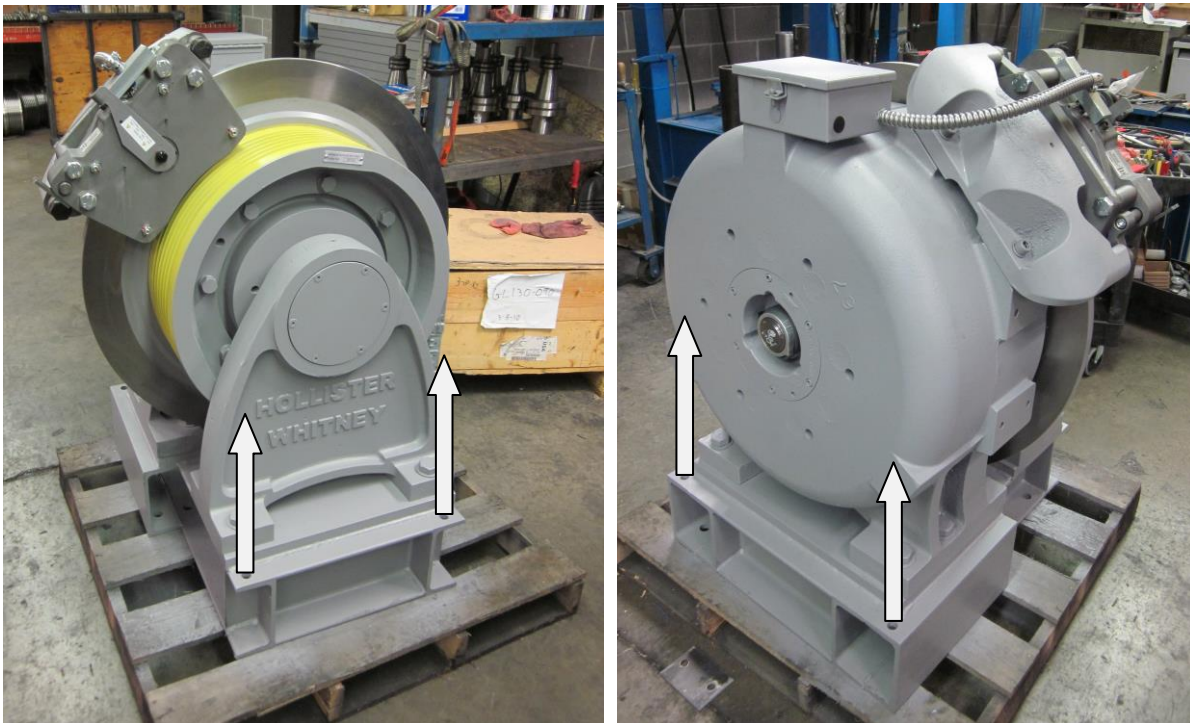

Figure 3
- When the machine is removed from boards, it must be moved by hoisting through holes provided in machine base. Figure 3